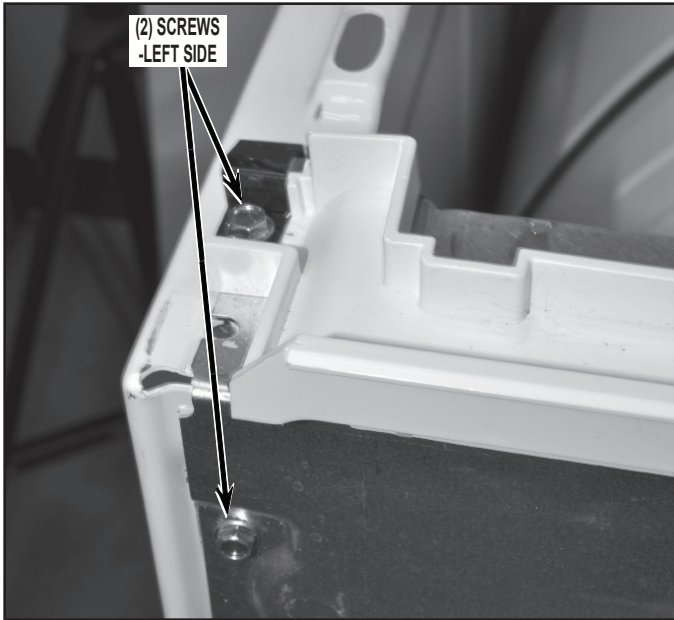

FIGURE 12A
- Remove console mounting bracket by removing two (2) screws securing bracket to cabinet left side panels, two (2) screws from right side panel and one (1) screw from central control bracket. Slightly lift assembly and remove from dryer. See *Figure 12A* and *12B*.